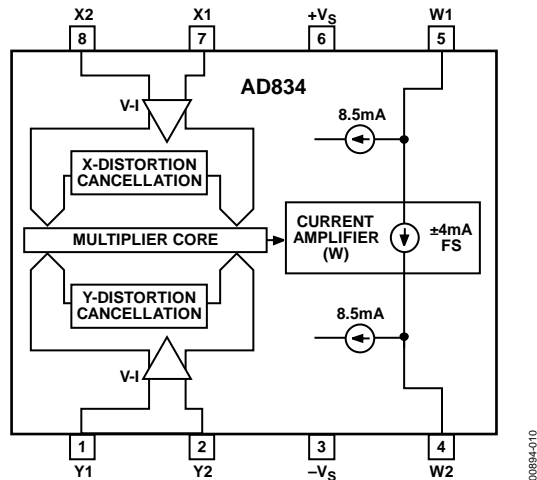

Figure 11. Functional Block Diagram
Figure 11 is a functional equivalent of the AD834. There are three differential signal interfaces: the two voltage inputs ($X = X1 - X2$ and $Y = Y1 - Y2$), and the current output (W) which flows in the direction shown in Figure 11 when X and Y are positive. The outputs ($W1$ and $W2$) each have a standing current of typically 8.5 mA.